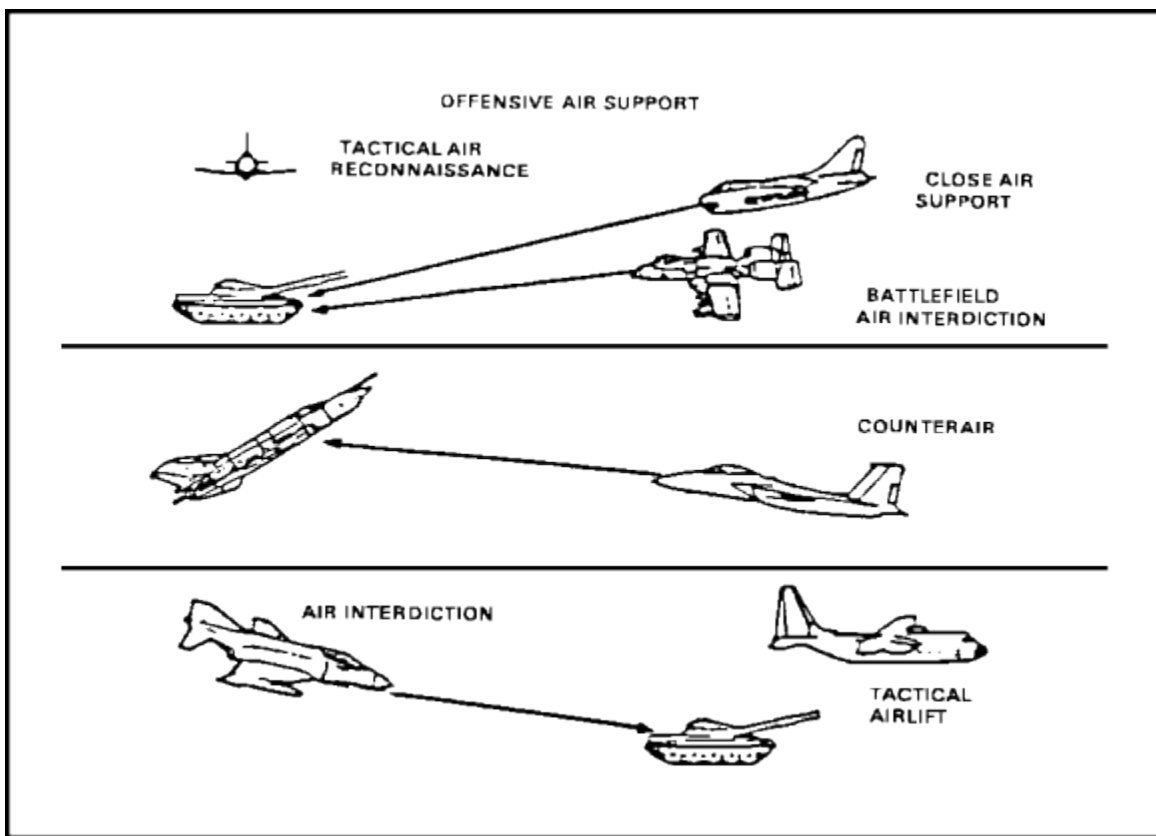

Figure 2-1. Tactical air support
k. Tactical Air Support. Tactical air support provided by the USAF consists of offensive air support (OAS), counterair, air interdiction, and tactical airlift (Figure 2-1).
(1) Offensive Air Support. OAS is the element of tactical air support normally conducted in support of ground operations. It consists of tactical air reconnaissance, battlefield air interdiction, and close air support.
(2) Tactical Air Reconnaissance. Tactical air reconnaissance is the acquisition of intelligence information using visual observation and/or sensors in aircraft.